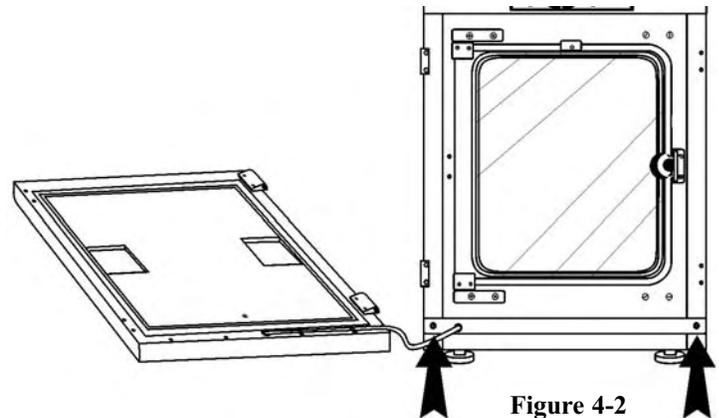

Figure 4-2
2. Open the outer door and remove it by lifting it off its hinge pins. Place the door on a padded surface to prevent scratches. See Figure 4-2.
3. Refer to the illustration of the outer door in Figure 4-2. With a Phillips screwdriver, remove and save the four nylon screws from the door hinge mounting holes. The black arrows identify the screw locations.